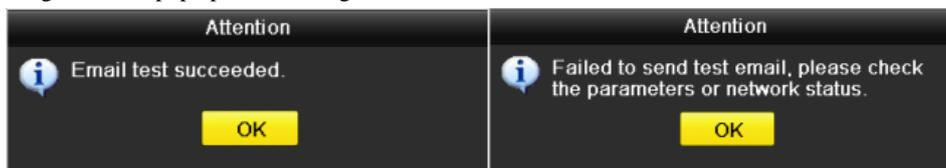

Figure 9. 23 Email Testing Attention
- You can click **Test** to test whether your Email settings work. The corresponding Attention message box will pop up. Refer to Figure 9. 23.